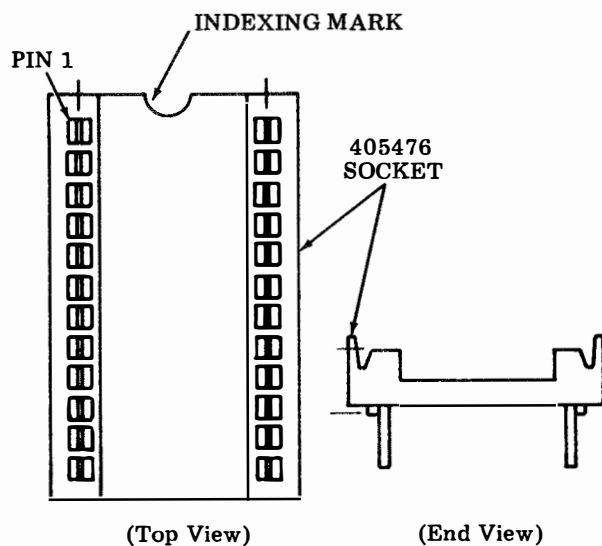

Fig. 3—405476 Socket
- ① Install one 405476 socket (Fig. 3) in position vacated in 4.03. Before carefully soldering socket pins to the board plating, make sure the indexing mark of the socket points to the top of the circuit board. (Pin 1 is in upper left-hand corner.)